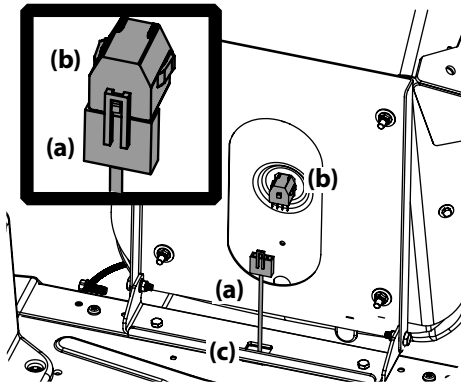

Figure 2-12
3. If necessary, securely connect the seat switch wiring harness (a) to the seat switch (b) as shown in Figure 2-12. Be sure to push the excess wire from the wire harness into the seat box hole (c) before continuing.